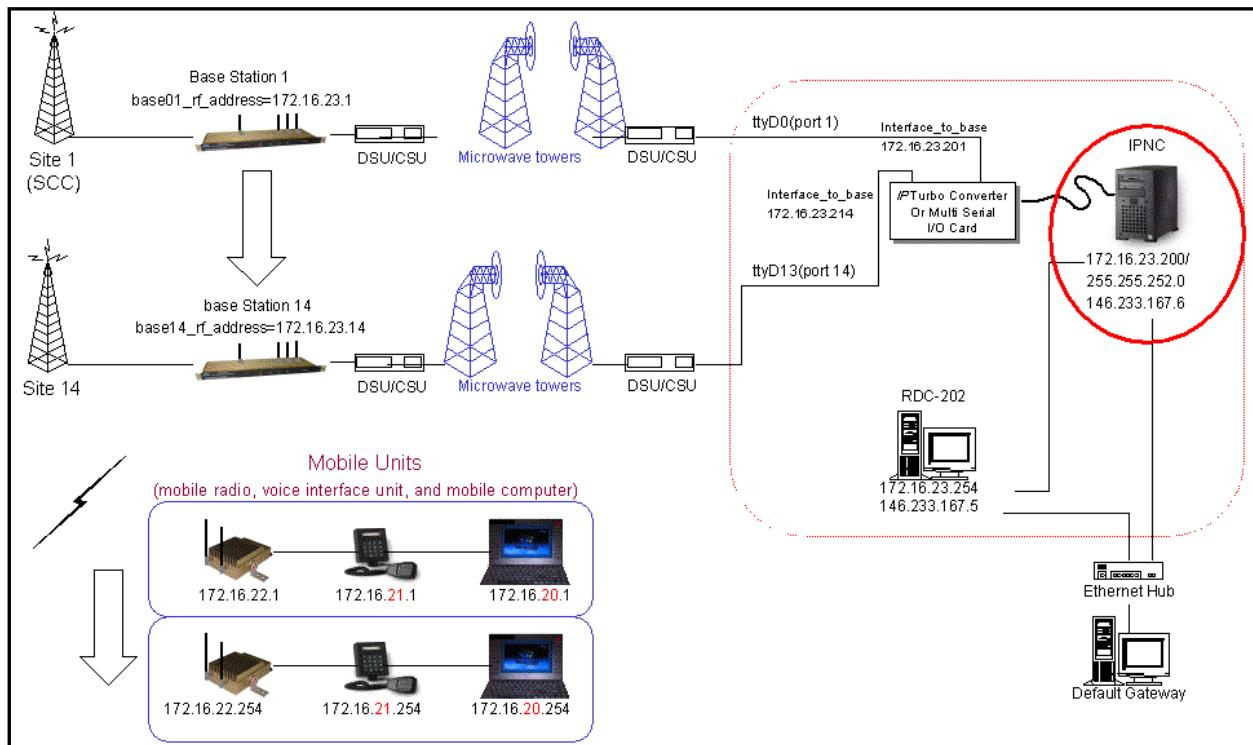

Figure 4: Basic Network Connection
Figure 4 depicts a basic network connection for a network inclusive of one (1) Internet Protocol Network Controller (IPNC) and a range of base stations, mobile radios, VIUs (voice interface units), mobile computers, and additional components that can interface with the system.